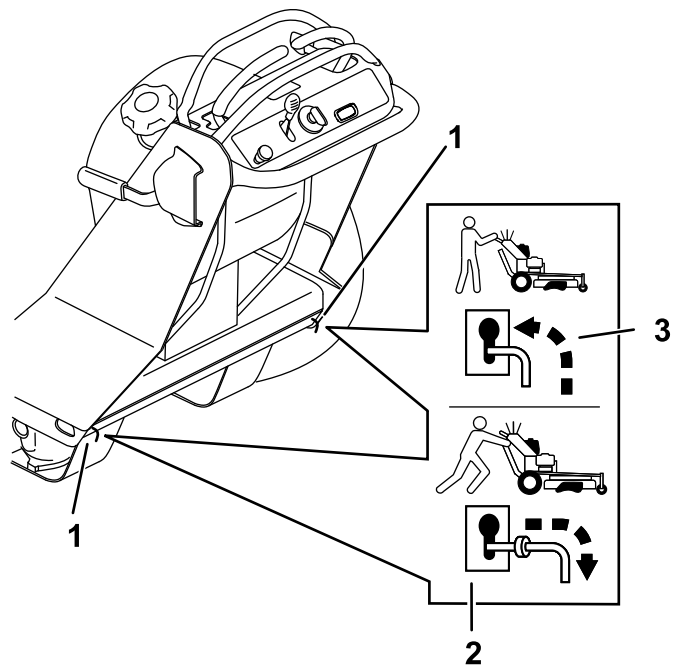

Figure 65
4. Move both bypass levers rearward through the key hole and down to lock them in place (Figure 65).
7. Shut off the engine and move the bypass levers forward through the keyhole and down to lock them in place (Figure 65).